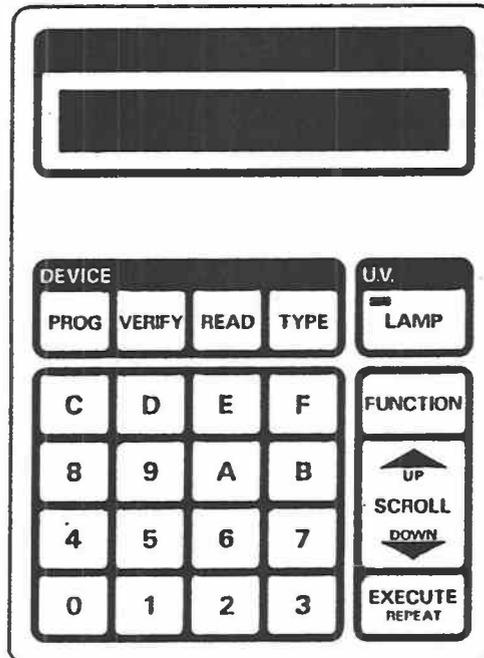

Figure 3.4 - The Keypad
- Section C:** The Keypad. There are three groups of keys on the keypad, used to enter data and operate the programmer and eraser. Refer to Figure 3.4.